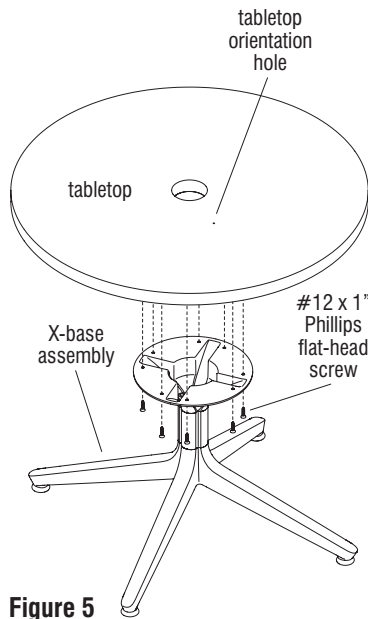

Figure 5
9. If the tabletop will receive a Node grommet and/or is not already resting on top of the X-base assembly, carefully turn the X-base assembly to the upright position on the floor, then place the tabletop on top of the spider plate (Figure 5).
10. Align the mounting holes of the spider plate with the mounting holes on the underside of the tabletop and secure together using eight #12 x 1" Phillips flat-head screws (Figure 5 & Detail D).